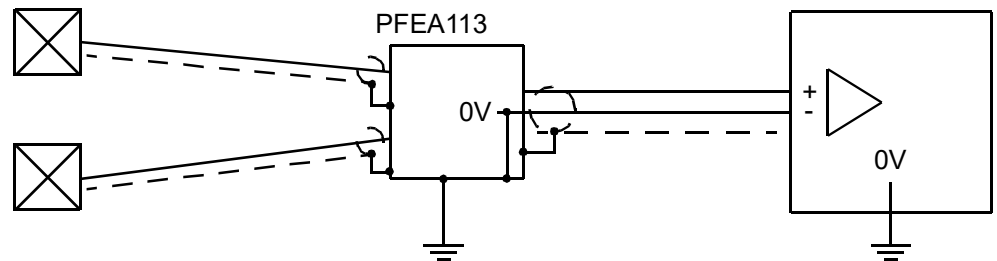
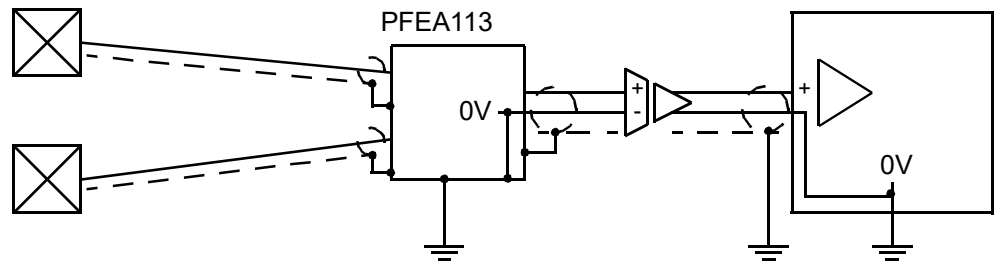

Figure 2-6. Connection to a superior system with an insulated or differential input
Figure 2-7. Connection to a superior system through a separate insulation amplifier
- Since the signal earth of the measurement system is connected to the chassis earth of the tension electronics, the input of a superior system connected to the control system must not be earthed. The best ways of interconnecting the measurement system and a superior system to achieve optimal function are shown in Figure 2-6 and Figure 2-7.